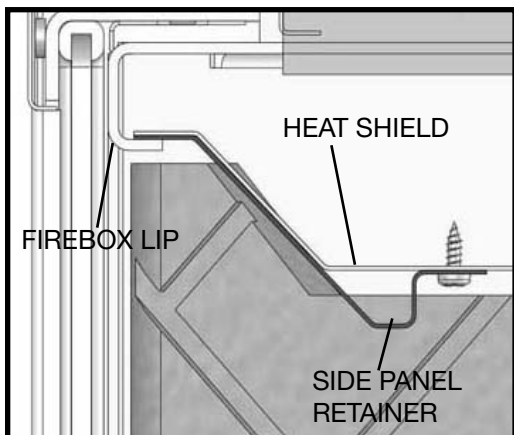

Figure 54: Panel Retainer.
1. Remove the Side Panel Retainer located on the underside of the firebox heat shield. The retainer slips between the lip of the firebox and the heat shield and is retained in place by two screws Figure 54.